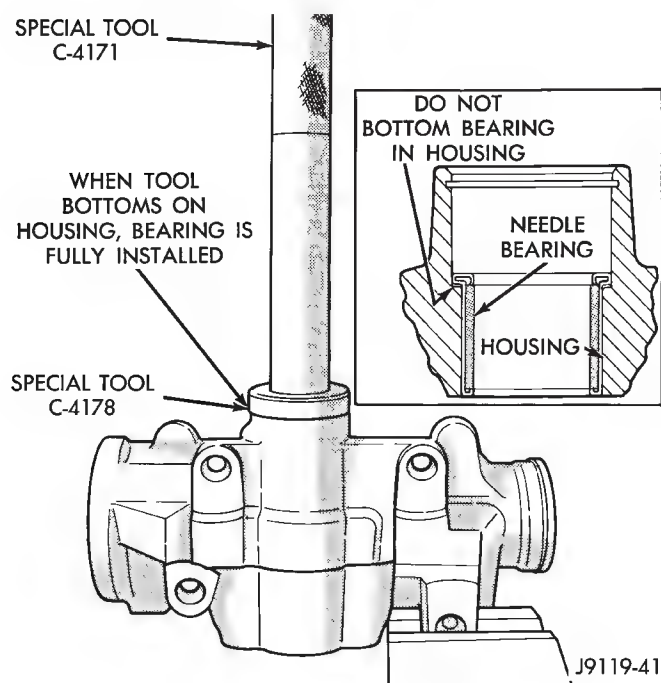

Fig. 38 Pitman Shaft Bearing Installation
- (1) Install needle bearing into housing using tool C-4178 and handle C-4171 (Fig. 38).